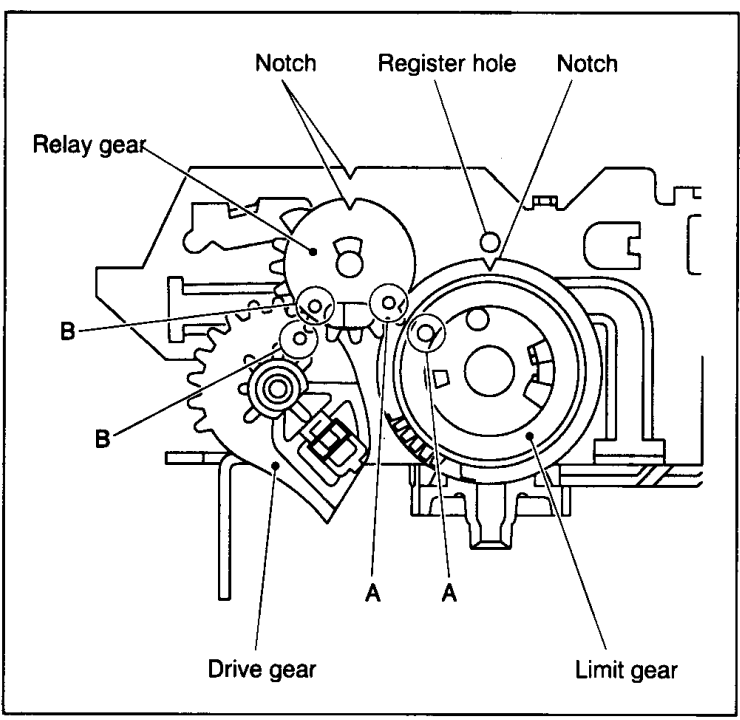

Fig. 2-3-7
(1) Install the limit gear so that the notch at its outer circumference is in alignment with the register hole of the main deck. (See Fig.2-3-7)
(2) Install so that the notch at the outer circumference of the relay gear is in alignment with the notch of the main deck, and at the same time, that the hole A of the relay gear is in alignment with hole A of the limit gear and hole B of the relay gear with hole B of the drive gear. (See Fig.2-3-7)